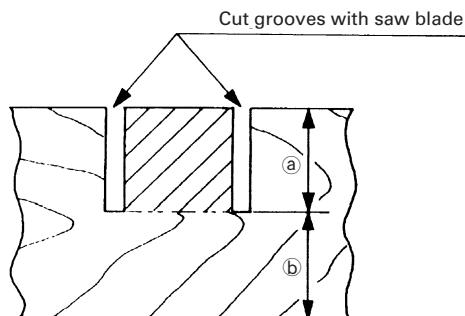

Fig. 47
Grooves in the workpiece can be cut as indicated in Fig. 47 by adjusting the 8mm depth adjustment bolt.
(1) Loosen the 8mm wing nut and turn the 8mm depth adjustment bolt by hand.
- (2) Adjust to the desired cutting depth by setting the distance between the saw blade and the surface of the base (see ⑤ in Fig. 47).
- (3) The 8mm wing nut must be properly tightened after the adjustment has been completed.